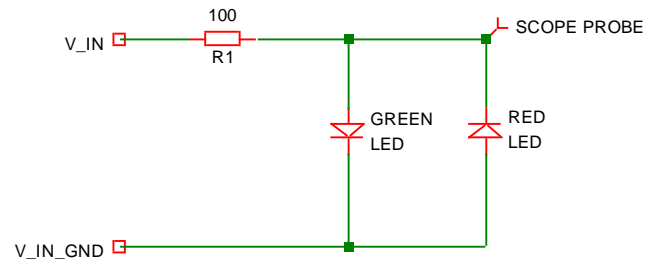

Fig. 4: Voltage limiter circuit using green and red LEDs.
- Step 3a: Fig. 4 shows the voltage limiter circuit.